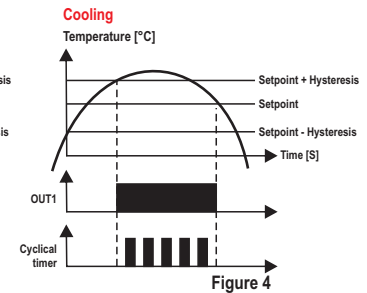

Figure 4
- **Cyclical timer output cycles whenever stage 1 output is on (F22=5)**: **stage 3** will cycle only when **stage 1** output is on, observing the times configured in F20 (**ON**) and F21 (**OFF**), as shown in Figure 4.